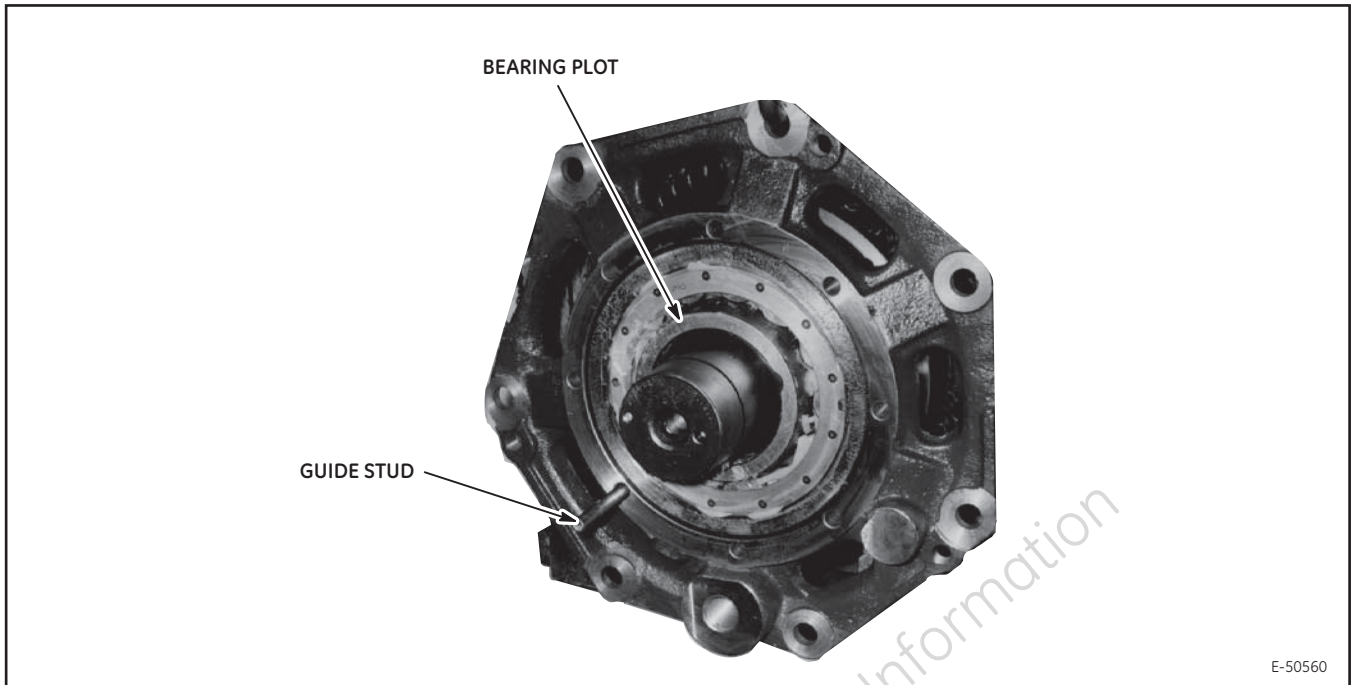

Figure 12. DE Frame Head Installed Over DE Bearing on Rotor Shaft.
- e. Lift the DE frame head (11) with a hoist, align on the guide stud, and install onto the rotor shaft over the DE bearing as shown in Figure 12 . The DE frame head should remain supported by the hoist until the inner bearing cap (12), the DE frame head (11), and the outer dummy bearing cap (7) are bolted together.
- g. Install and align the outer gasket (9) over the guide stud onto the DE frame head.